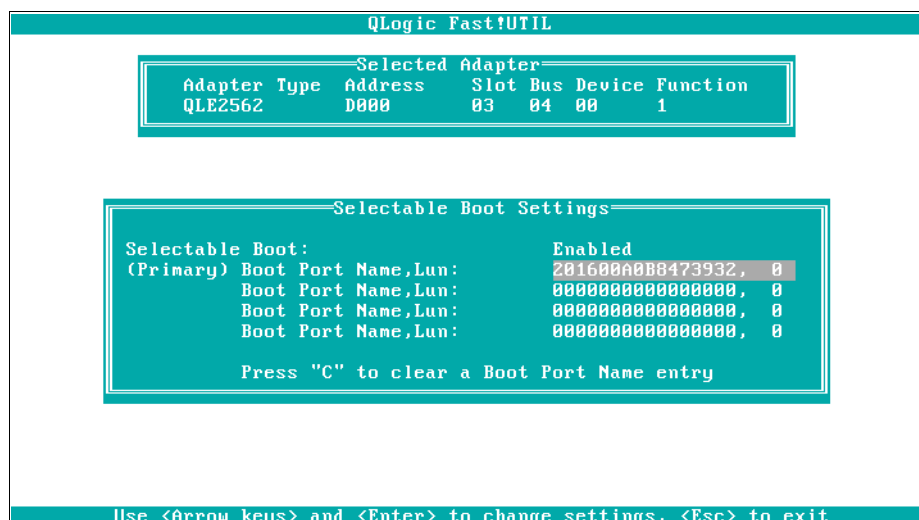

Figure 2-28 Verifying the mapping to the HBA
- Verify that all the information is correct after it goes back to Selectable Boot Settings; it should look like Figure 2-28. Notice that LUN number on the right side of the figure now matches what we did when we configured our host mappings in 2.8.5, “Creating the LUN to host mapping on DS5000 series” on page 63.